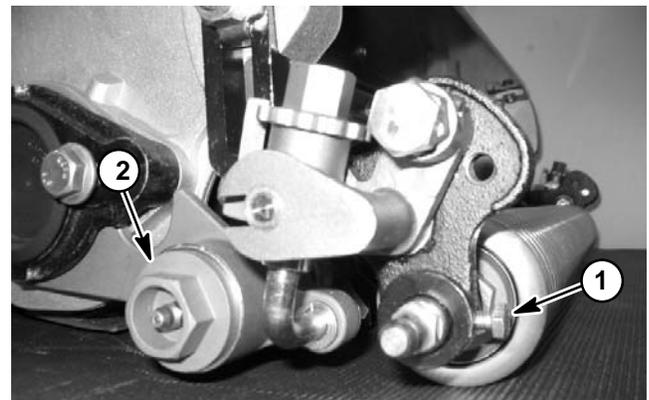

Figure 8
10. Remove flange head screw (item 4) and washer (item 5) that secure drive pulley (item 7) to the cutting reel shaft. Slide drive pulley from cutting reel.
11. Remove two shoulder nuts (item 8) that secure the groomer drive side plate (item 10) to the cutting unit frame. Remove the groomer drive side plate assembly.
12. Remove the cap plug (item 21) from non-drive side plate (Fig. 8).
5. Carefully place drive side plate onto groomer shaft taking care not to damage seals in side plate. Position side plate to the cutting unit frame and secure with two shoulder nuts (item 8).
7. Apply anti-seize lubricant to threads of flange head screw (item 4) used to attach drive pulley to reel shaft. Secure drive pulley to reel with washer (item 5) and flange head screw.
8. Place square key (item 31) in groomer shaft slot and install driven pulley onto the groomer shaft. Thread flange nut (item 17) onto the shaft threads.
9. Secure groomer reel by holding the flange nut (item 17) on one end of the reel and tightening the flange nut on the other end of groomer shaft. Torque flange nuts from **100 to 120 in-lbs. (11.3 to 13.6 N-m)**.
10. Apply Loctite #242 (or equivalent) to threads of cap plug (item 21). Install cap plug into non-drive side plate and torque cap plug from **60 to 80 ft-lbs. (81 to 108 N-m)** (Fig. 8).